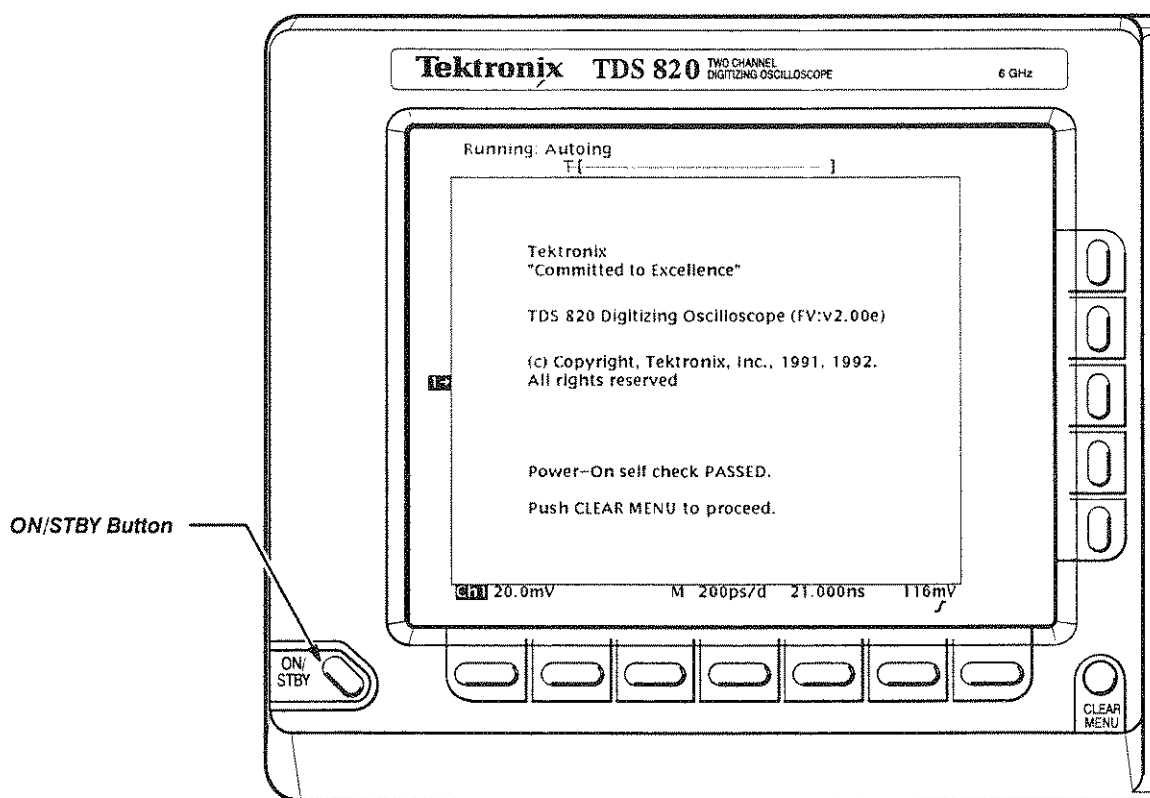

Figure 1-2: ON/STBY Button
2. If the oscilloscope is not powered on (the screen is blank), push the front-panel **ON/STBY** button to toggle it on (Figure 1-2).